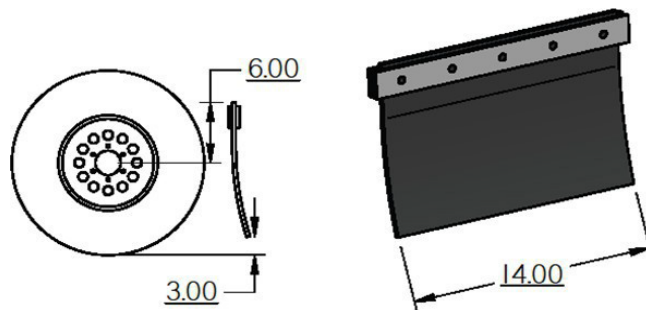

Figure 11 MUD FLAP PTR-8 BUMPER
- Mud flaps are required and must extend from 6 inches above center line of rear axle to 3 inches from ground at ride height. See diagram on FIG 11.